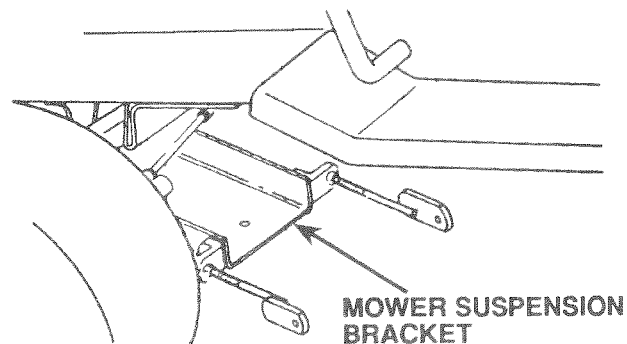

FIGURE 13
**BEFORE DRIVING THE TRACTOR, INSTALL MOWER OR REMOVE FRONT MOWER SUSPENSION BRACKET (FIG. 13)**